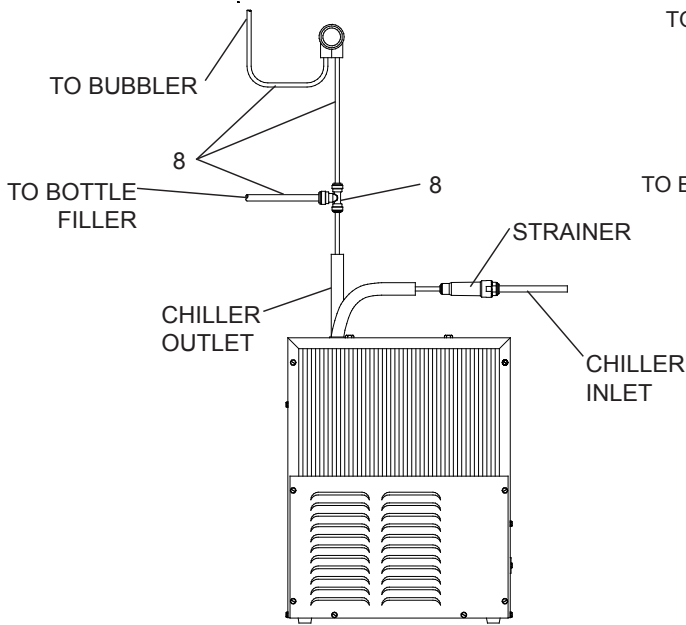

Figure 5 – EZWS-ERP8-RF Tube Routing
5. (For EZWS-ERP8-RF) Verify that a strainer is installed on the water supply line to the chiller (Fig 5).